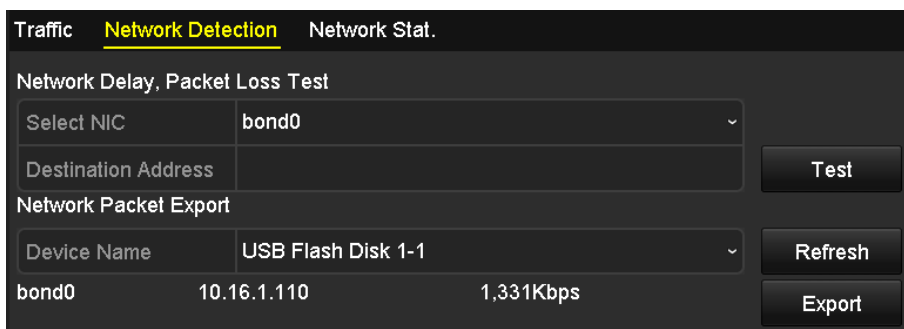

Figure 11-22 Network Detection Interface
Step 2 Click the **Network Detection** tab to enter the Network Detection menu, as shown in Figure 11-22.